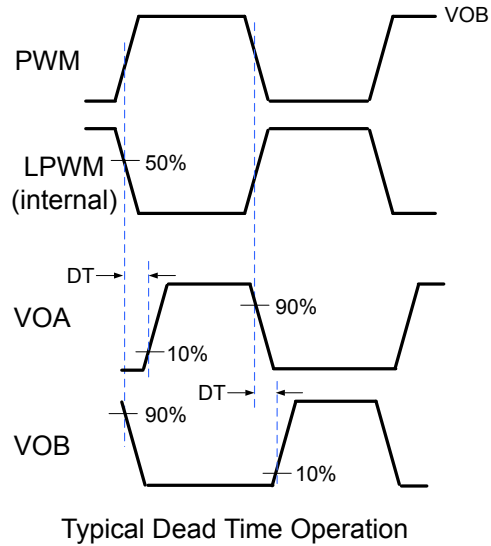

Figure 2.20. Dead-Time Waveforms for Si8274x Drivers
All high-side/low-side drivers with a single PWM input (Si8274x) include programmable dead time, which adds a user-programmable delay between transitions of VOA and VOB. When enabled, dead time is present on all transitions. The amount of dead time delay (DT) is programmed by a single resistor (RDT) connected from the DT input to ground per the equation below. Note that the dead time pin should be connected to GNDI through a resistor between the values of 6 k Ω and 100 k Ω . A filter capacitor of 100 pF in parallel with RDT is recommended. See Figure 2.20 on page 18 below.